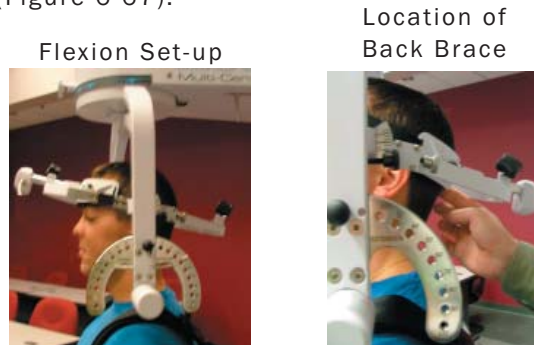

Figure 6-67. Initial Isometric Flexion & Extension Set-up
Step 8. For a flexion test, insert the front head brace. For an extension test, insert the back head brace. Note that the bottom of the back brace is located at the external occipital protuberance (Figure 6-67).